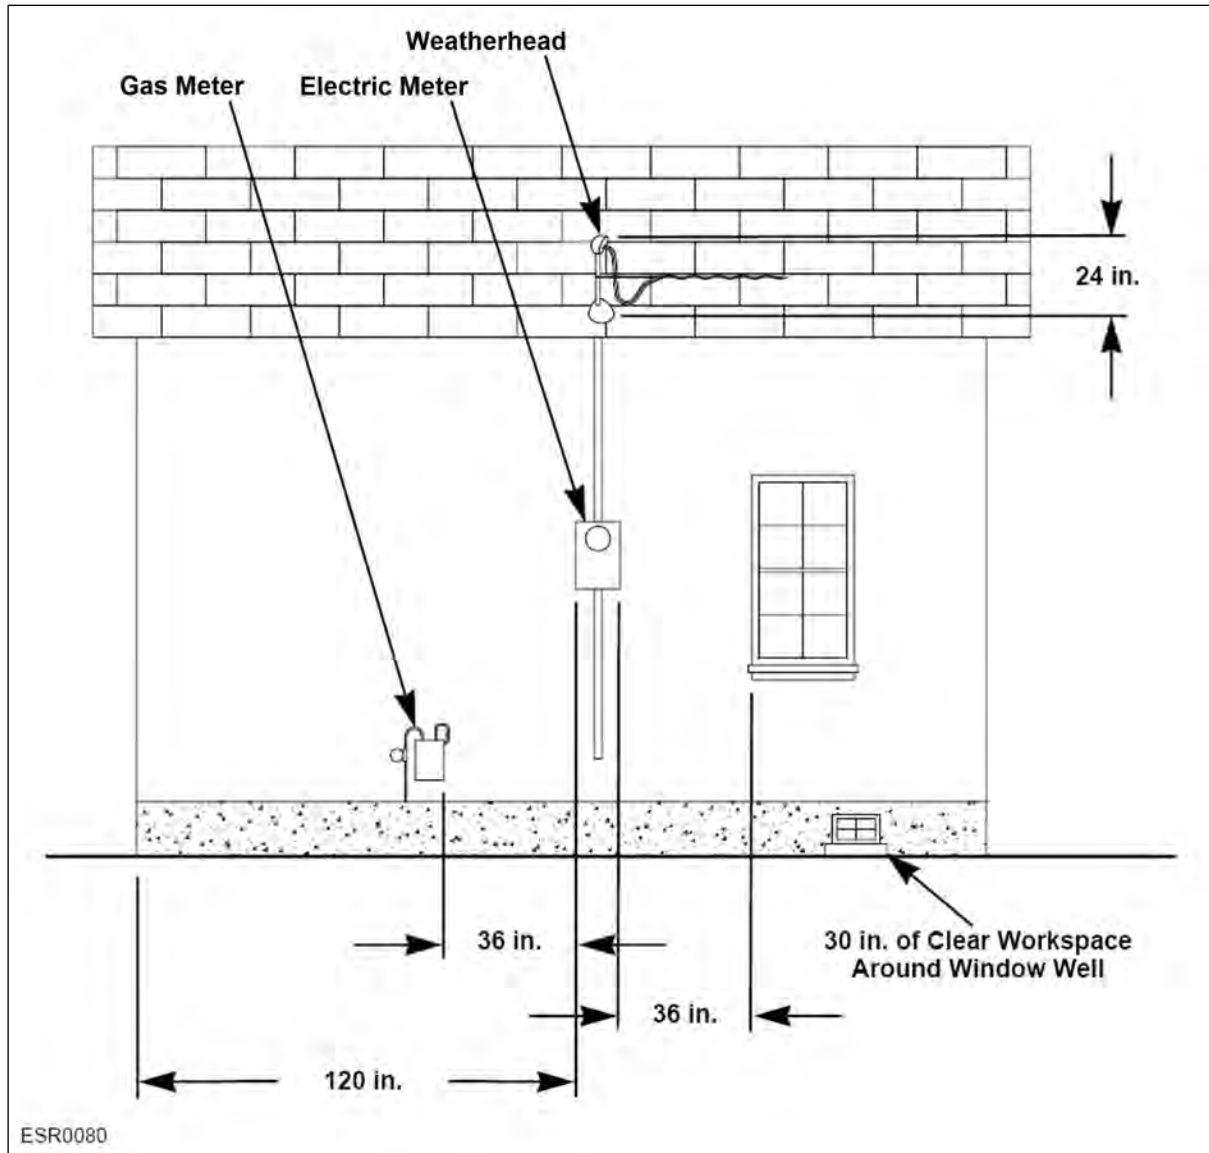

Figure 16: Residential Meter Clearances for Overhead Service
- The minimum distance between a gas meter and the PGE meter is 36 inches as shown in **Figure 16**.
- The point of attachment for the cable must be a 3/8-inch eyebolt or 3/8-inch eye lug that is within 24 inches of the weatherhead as shown in **Figure 16**.